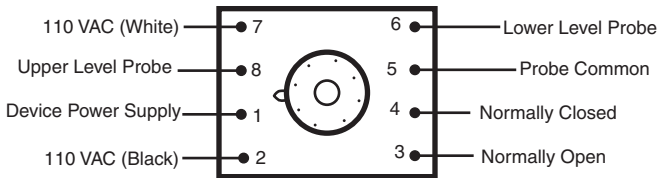

Figure 2
2. Attach the black lead between the common probe terminal and terminal five (5) on the socket mount. See figure 2.
2. Connect the device power supply to terminal 1. (The device power supply is the voltage that is required by the device (pump, valve, etc.) being turned on or off. This voltage can be either AC or DC Volts and up to 220 VAC max.) See figures 2 and 3.
2. Connect the device power supply to terminal 1. (The device power supply is the voltage that is required by the device (pump, valve, etc.) being turned on or off. This voltage can be either AC or DC Volts and up to 220 VAC max.) See figure 2 and 4.